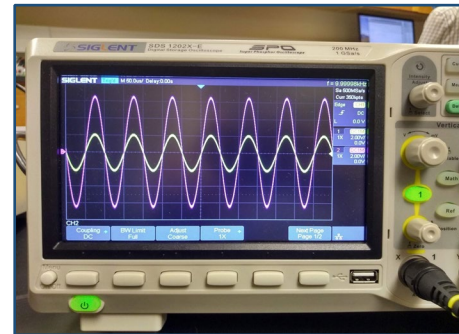

Figure 3: Test result on oscilloscope
- AC amplifier works as expected (Figure 3)